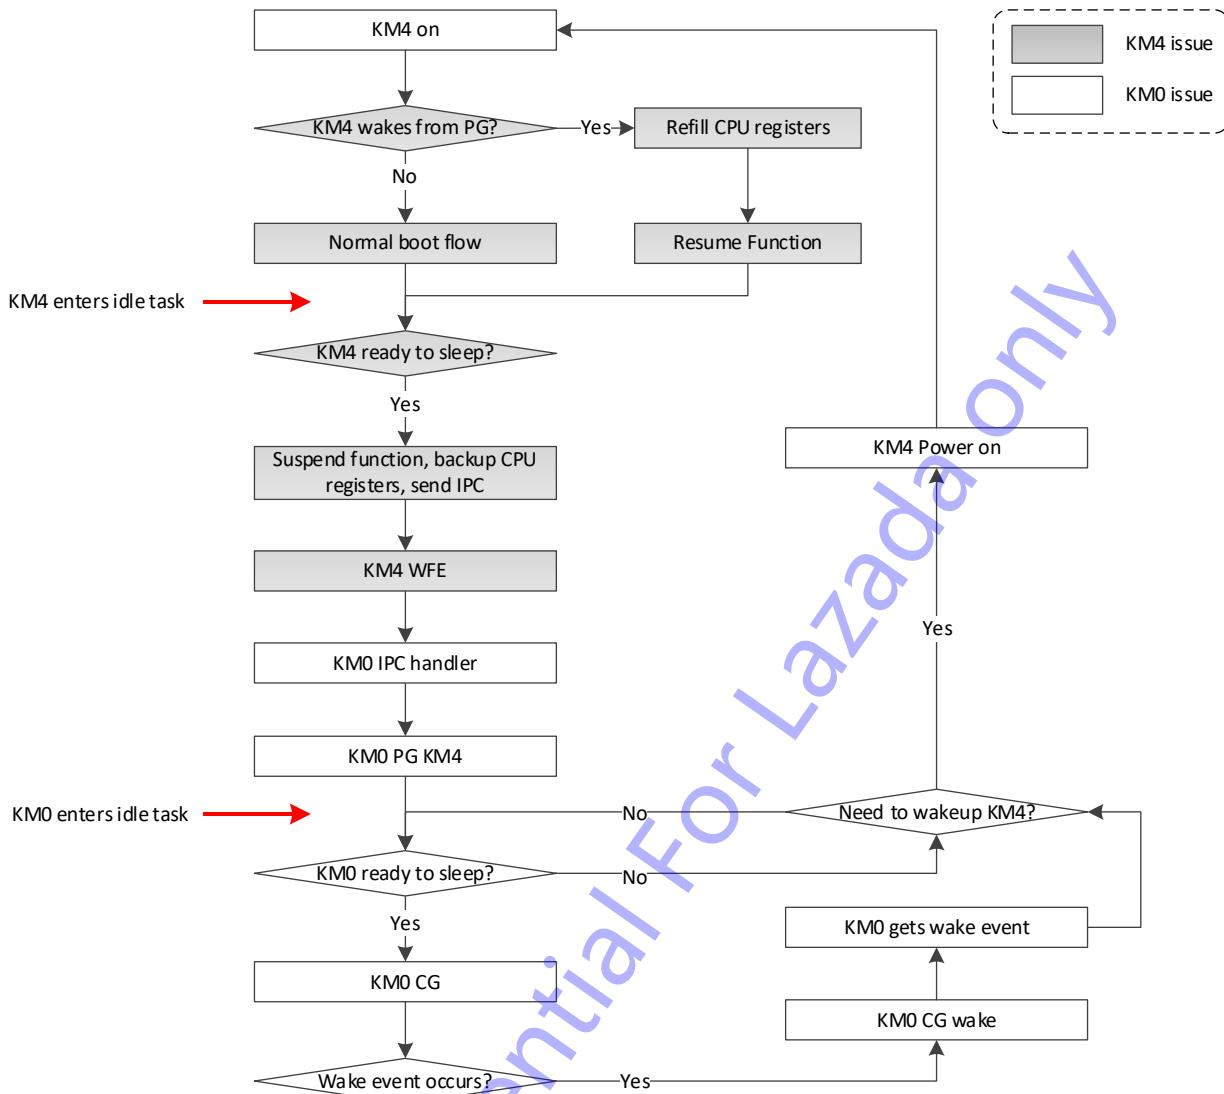

Fig 15-3 KM0 CG + KM4 PG
There are two sleep modes: clock-gating (CG) and power-gating (PG). CG means to turn off particular clocks and PG means to turn off some power domains. So PG has lower power consumption. Recommended sleep mode for dual cores is KM0 CG + KM4 PG/CG. Fig 15-3 shows sleep and wake flow of KM0 CG+ KM4 PG.